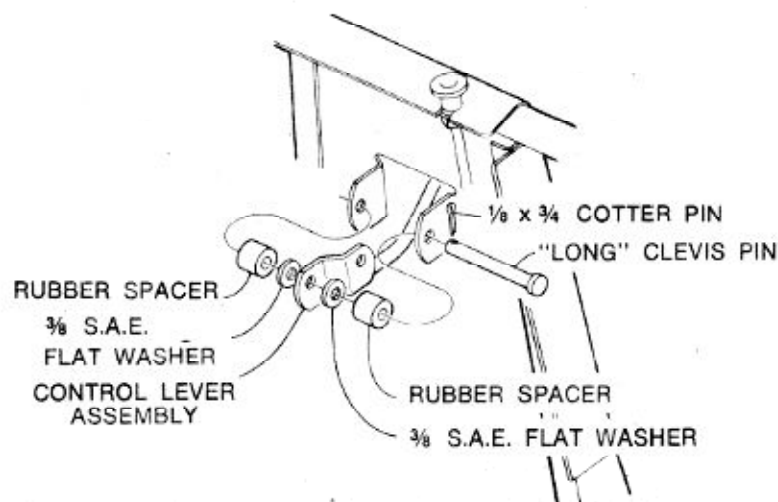

FIG. 6
7. Attach the control lever assembly to the handle, Fig. 6.
Secure the (2) rubber spacers*, (2) $\frac{3}{8}$ S.A.E. flat washers* and the control lever* to the bracket on the backside of handle, as shown in Fig. 6, using the "long" clevis pin* and a $\frac{1}{8}$ x $\frac{3}{4}$ cotter pin*.